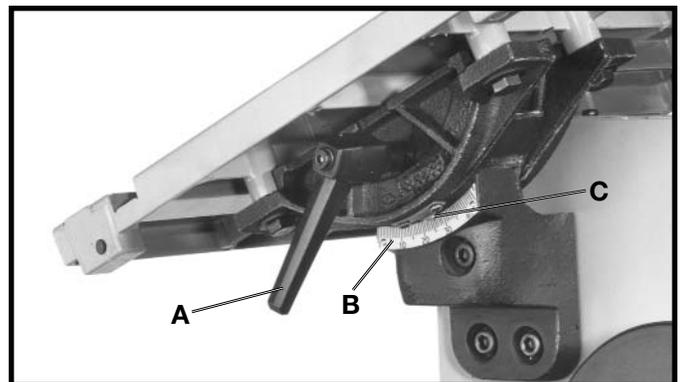

Fig. 25
The table can be tilted 45 degrees to the right and approximately 3 degrees to the left. To tilt the table, loosen lock handle (A) Fig. 25, tilt the table to the desired angle and tighten lock handle (A). **NOTE:** The table lock handle (A) can be repositioned by pulling out on the handle and repositioning it on the nut located underneath the hub of the handle. A scale (B) and pointer (C) is provided to indicate the degree of table tilt.